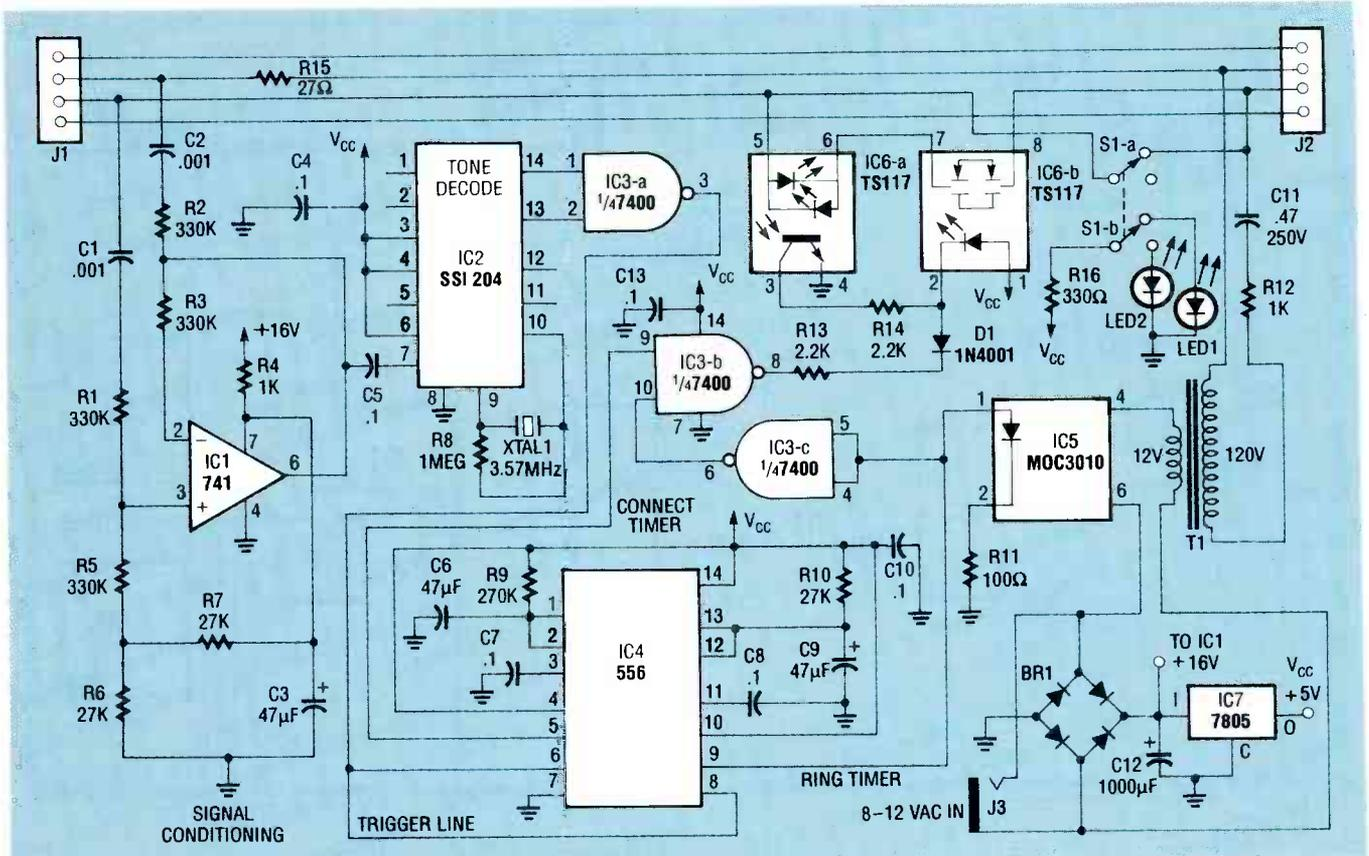

FIG. 2—SCHEMATIC for the Fax-Mate. Notice how it closely resembles the block diagram.
When working with the phone line, it is very important not to put any foreign signals on the line, and equally important not to load the line except when equipment is connected to communicate. Looking at the schematic in Fig. 2, the upper path is the data path and the lower path monitors the incoming line waiting for a # *Touch-Tone*. As designed, the Fax-Mate will not respond to any other voice or data signal. IC1 is the phone-line monitor/buffer, and it conditions incoming tones for the decoder, IC2. C1 and C2 prevent the nominal 48-volts DC on the phone line from overloading the op-amp, and resistors R1 and R2 limit the current on an incoming ringing voltage. The ratio of R3/R2 sets the gain of IC1 to unity, and voltage-divider R6/R7 biases IC1 midway between its supply voltage and ground. That allows the op-amp to operate from a single supply.
In Fig. 2, one side of the telephone line enters J1 and passes through R15 to the fax jack, J2. Resistor R15 balances that side of the line against the small resistance that IC6 inserts into the lower loop. (By the way, the Fax-Mate is not dependent upon phone-line polarity, but the PC layout does adhere to tip-and-ring standards in and out of the project.)
Selecting the B position allows you to watch cable on channel 3. To record a cable program while watching another channel is no problem if your TV is cable-ready. Begin recording your program, then flip the A/B switch to position A. Use your TV remote control to select the desired channels on your TV tuner. If your TV set is not cable-ready, then that setup won't work; but don't despair, maybe the setup in Fig. 2 can help you.
- Figure 2 shows the A/B switch